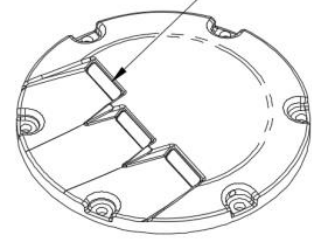

Figure 4-14
- After the gasket sleeve is placed, check whether it is exposed at the window. In case of much exposed, it shall be reloaded according to the above-mentioned process. In case of a small part exposed, cut it with a knife (Figure 4-14).